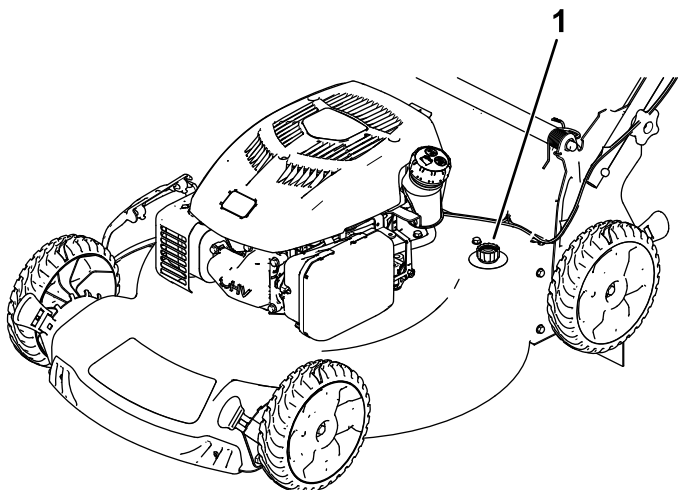

Figure 27
5. Attach a garden hose that is connected to a water supply to the washout port (Figure 27).